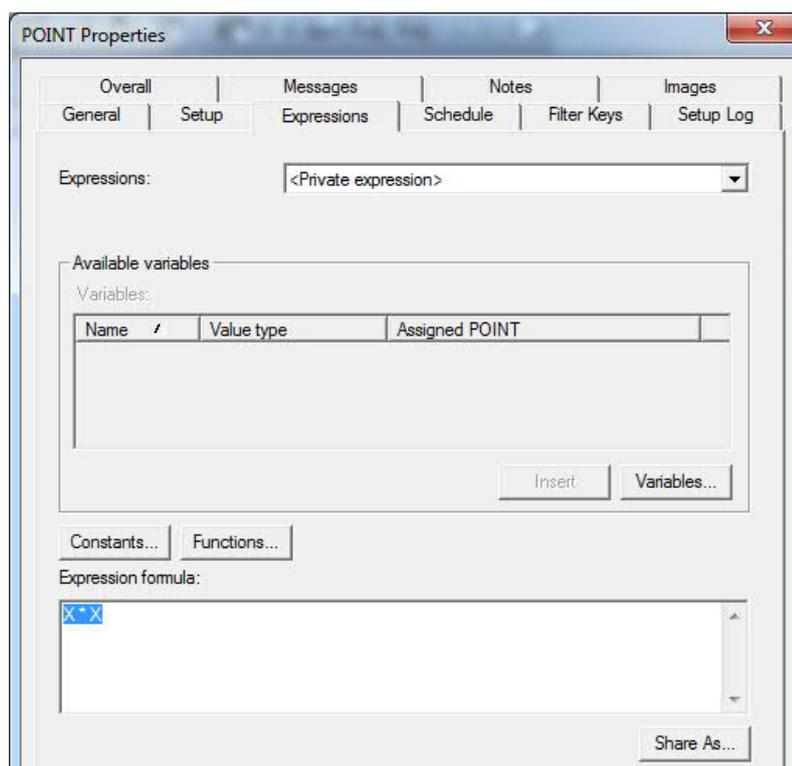

Figure 4. Expression = X\*X
- ii. In the Expressions tab, type "X \* X" in the Expression formula section. [Figure 4]